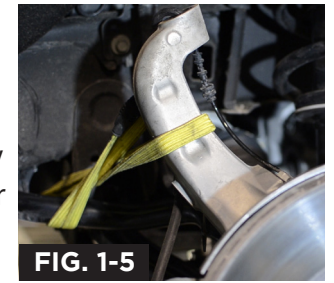

FIG. 1-5
10. Suspend steering knuckle to the vehicle frame to prevent strain on hardware. (Fig 1-5)